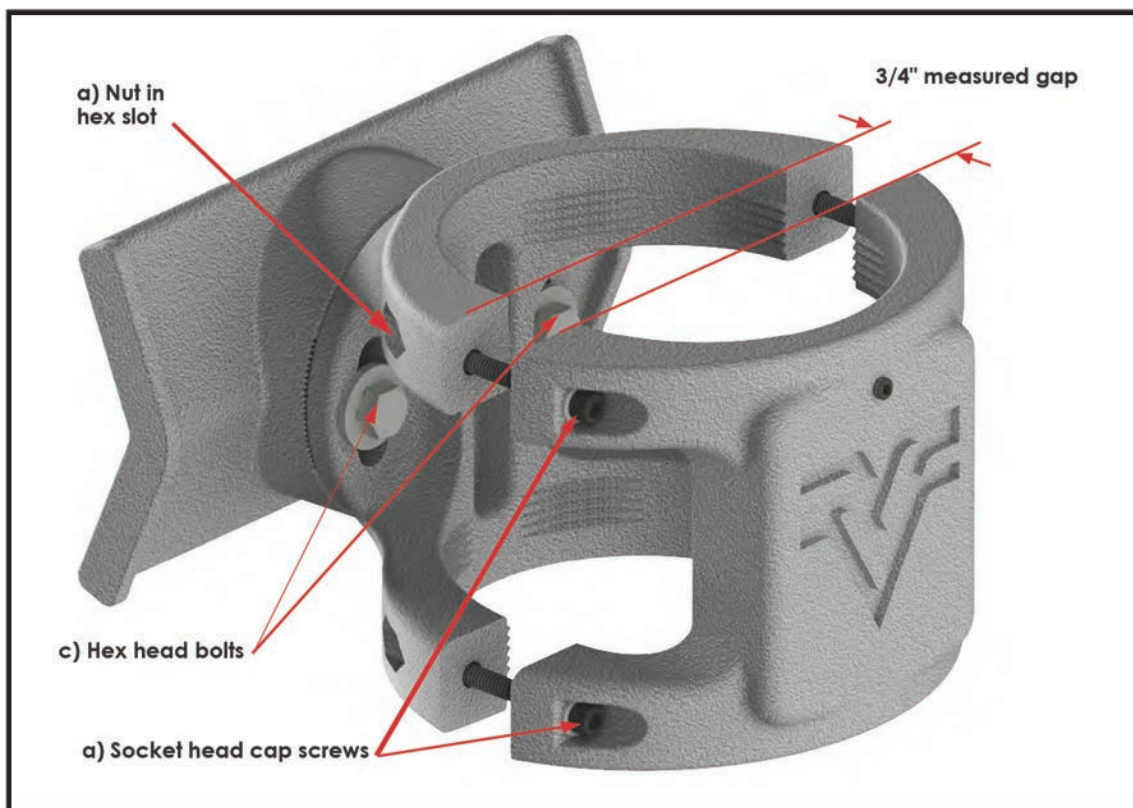

Figure 3
- a) Loosen all four socket head cap screws until you reach a 3/4" gap in the clamp halves (as indicated in Figure 3). Be sure that the nuts do not back off of the screws.